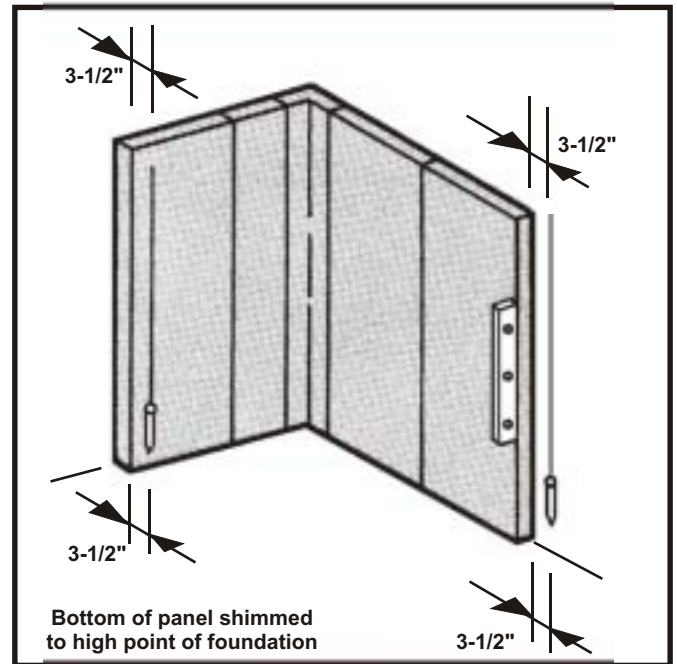

Fig. 22
- G. Level these panels to the perimeter high point and check for plumb with a 48" spirit level. (Panels over 10' in height should be checked for plumb with a plumb bob. This will insure a much more accurate alignment. See Fig 22.)